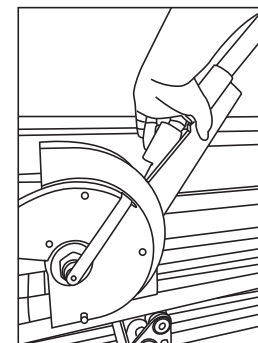

Fig 5
5. Utilize the ratcheting system to allow the operator to use body weight to increase bending force with minimal effort. To utilize this system, lift up on the ratchet release tab and lift the ratchet handle to lower to a suitable leverage point (Fig. 5). Release tab once desired angle is achieved. Lower ratchet handle to begin the bending process. Continue to ratchet handle up and down while bending the conduit until desired bend angle is reflected on the protractor. Allow for spring back in conduit by adding the spring back rating of the conduit brand to the degree of bend desired.